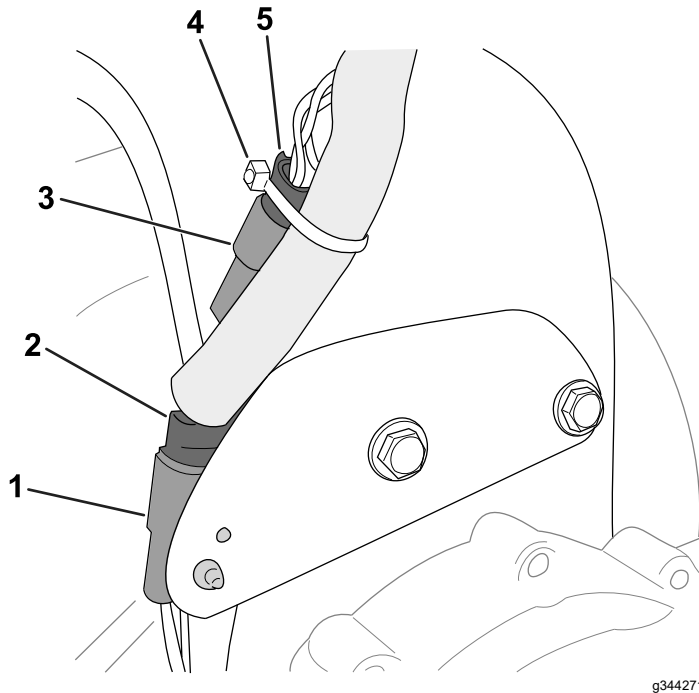

Figure 5
1. Connect the 2-pin connector of the motor gearbox to the clip connector on the harness bracket (Figure 5).
2. Connect the motor connectors to the kit-wire-harness connectors (Figure 5):
7. Use a cable tie to secure the connectors shown in Figure 5 to the kit wire harness.